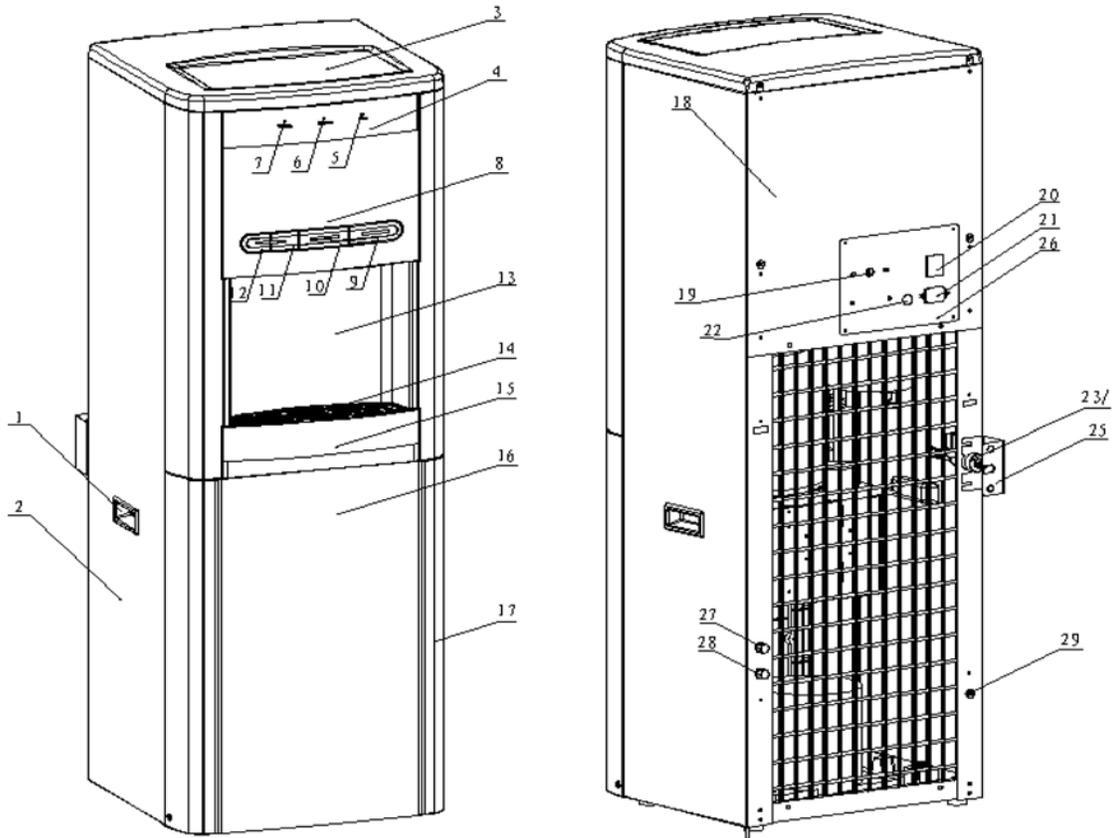

Figure 2
3. Connect the power cord to a power supply. (15A with GFI is recommended). The power LED will be illuminated on the front of the unit. (Figure 2, item 5).
10. Turn ON the red power switch. The compressor and hot tank heater systems will begin to operate. The red heater LED (not the word “heater” but the LED above the word “heater”), and the blue chilling LED on the front indication panel of the machine will be illuminated. (Figure 2, items 6 and 7)
14. Twist-off the cold and hot drain caps on the back of the unit. (Figure 2). Drain the PURA Ultimate completely, and replace the drain caps.